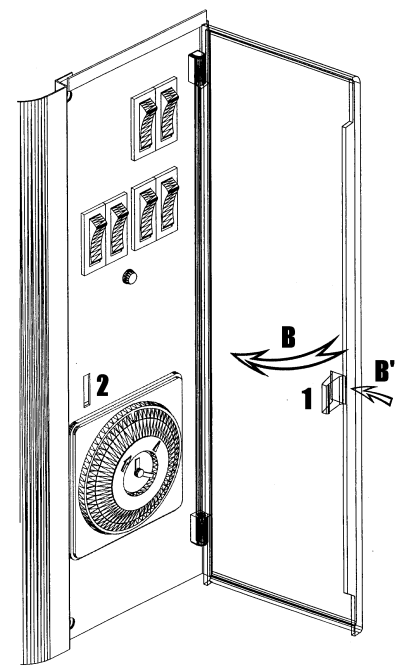

Figure 11
To close the cover (arrow **B'**), push on the front (arrow **B**) until the clear plastic part (1) snaps closed (Fig. 11).